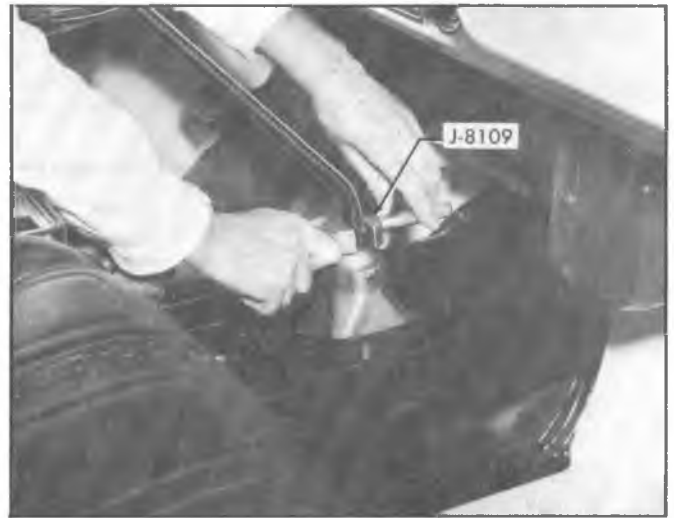

Fig. 11—Removing Transmission Gearshift Lever
4. Slide boot and retainer up on shift lever and remove the transmission shift lever using Tool J-8109 as shown in Figure 11.
NOTE: On vehicle equipped with Muncie 4-Speed transmission, remove the gearshift lever using Tool J-8109 as shown in Figure 11. Press down firmly and rotate counter-clockwise to release gearshift lever.
On vehicle equipped with Muncie 4-Speed transmission, install gearshift lever using Tool J-8109 as shown in Figure 11. Press down firmly and rotate clockwise to install gearshift lever. Install transmission floor pan cover and floor mat.
3. Remove attaching screws from transmission shift lever boot retainer. Slide boot and retainer up lever and remove transmission shift lever using Tool J-8109 as shown in Figure 11.